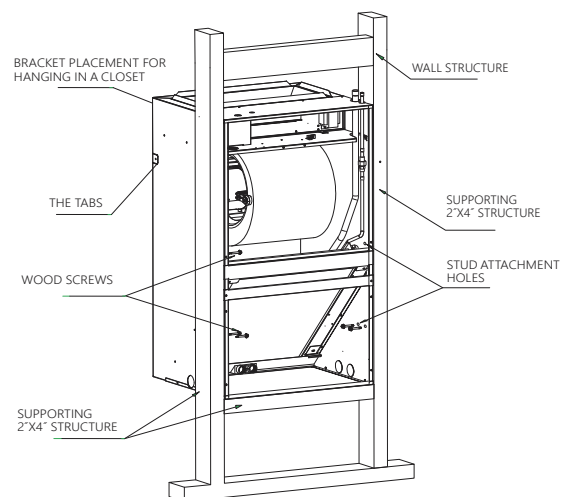
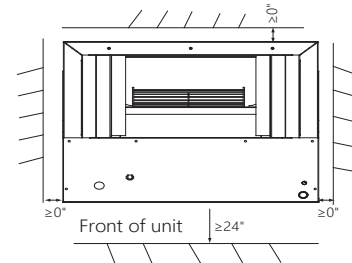

Fig. 3-2 F Frame Mount
Fig.3-3 Space for Frame Mount
The air handler comes with 8 clearance holes (4 on each side). These holes are used to mount the air handler inside of a frame structure (see Figure 3-2). When mounting in this fashion, make sure that the wood screws are mounted from within the air handler and not from outside the unit in order to avoid damaging the coil. If the frame does not provide support in the front of the unit and additional support is needed, open up the tabs and fix the unit to the frame or other support structure with screws. Select a solid and level site to ensure proper installation of the frame mount. Verify that there is sufficient space for installation and maintenance. (see Figure. 3-3)
IMPORTANT: The (8) wood screws are not provided with the unit. #12 x 1 1/2" wood screws are recommended. When the unit is installed on a wood frame, the screws should be used to fix the unit to the studs. If they are not used, the unit may fall down or cause other damage. See Figure 3-2 for frame mount installation.